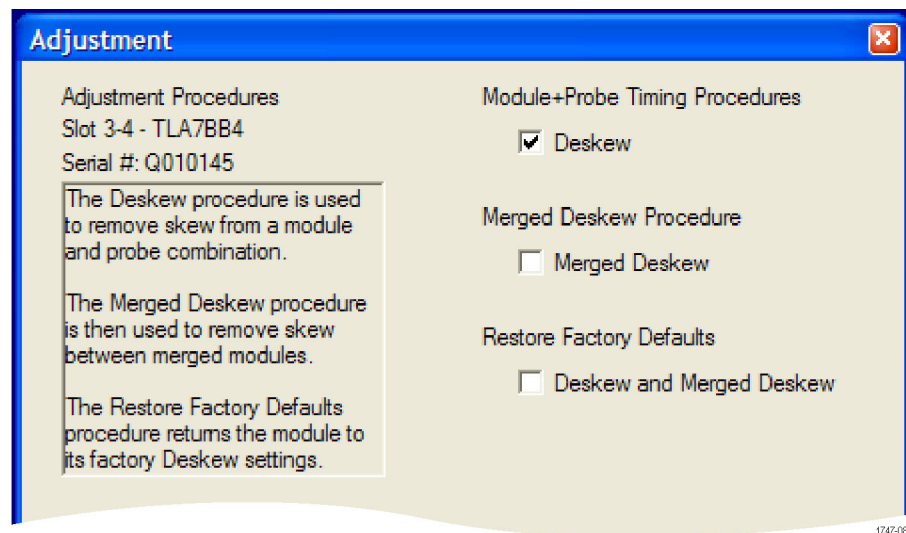

Figure 49: Adjustment procedure dialog box with Deskew selected
5. Click the Adjustment button to start the software. The Adjustment procedure dialog box appears. (See Figure 49.)